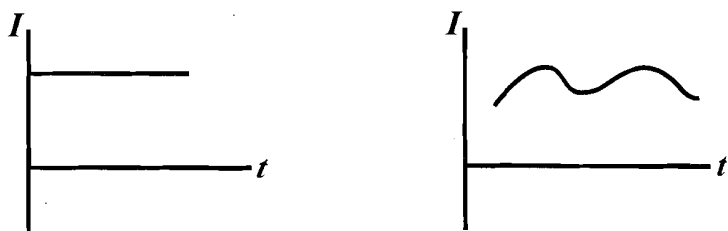

Fig.5.1: Plot of direct current with time
- **Direct current:** It results when the charges flow in one direction only (Fig.5.1). Note that in Fig.5.1a, the magnitude as well as the direction of the current remains the same. But in Fig. 5.1b, the magnitude of the current changes but the direction does not.